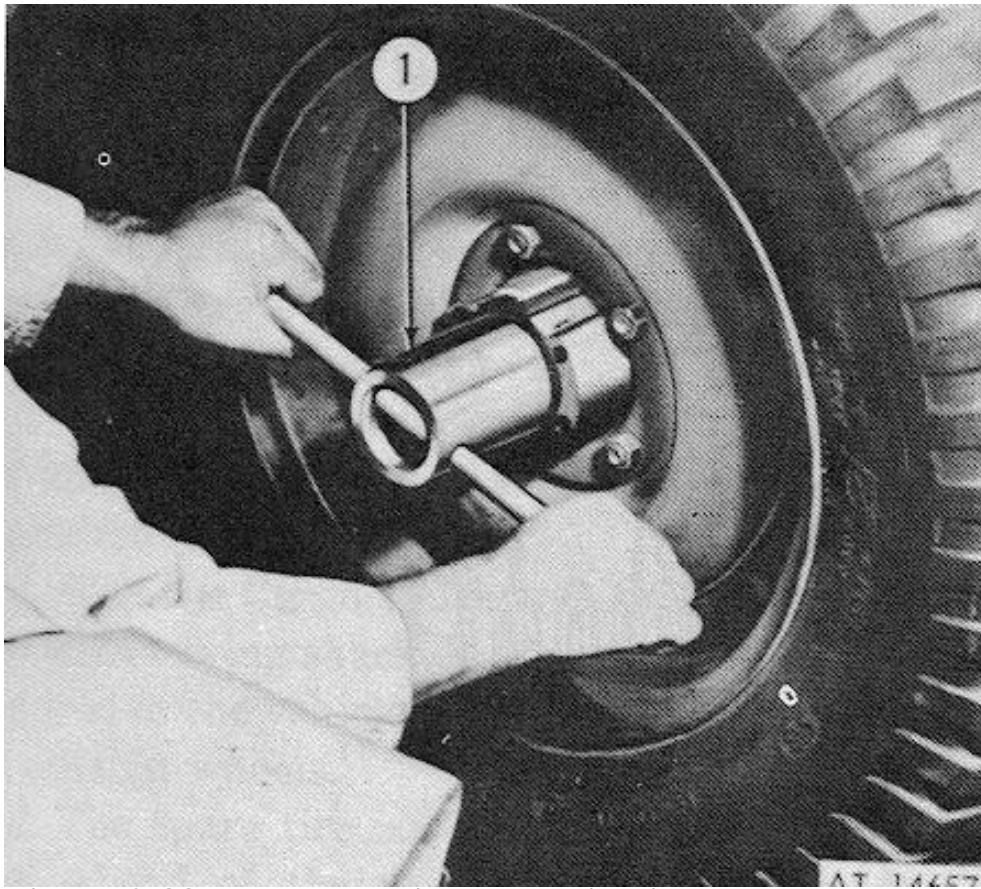

Figure 2-88. Wheel bearing nut adjusting tool.
- (1) Remove nuts and lock washers which secure axle shaft and/or driving flange to hubs,
- (2) Remove axle shaft and/or driving flange and gaskets.
- (3) Remove outer lock nut and lock washer.
- (4) Rotate hub, and using Tool FSN 5120-168-2286, (fig 2-88) adjust inner adjusting nut until wheel binds.
- (5) Back off adjusting nut one-sixth turn until wheel turns freely.
- (6) Install lock washer and outer lock nut and tighten. Bend lockwasher to secure nut.
- (7) Position new gasket on hub and install axle shaft and/or driving flange.
- (8) Install lock washer and nuts which secure axle shaft and/or driving flange to hub and tighten to 32-50 lbs-ft.